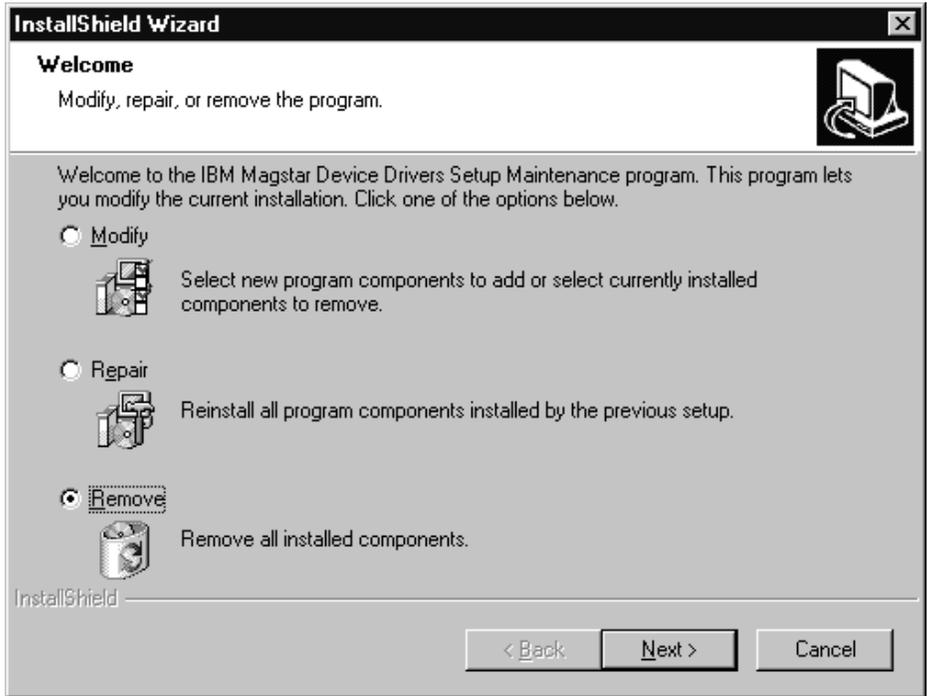

Figure 20. Drive Removal Menu
8. Choose the **Remove** option and follow the *InstallShield Wizard* to uninstall the drivers. See Figure 20.